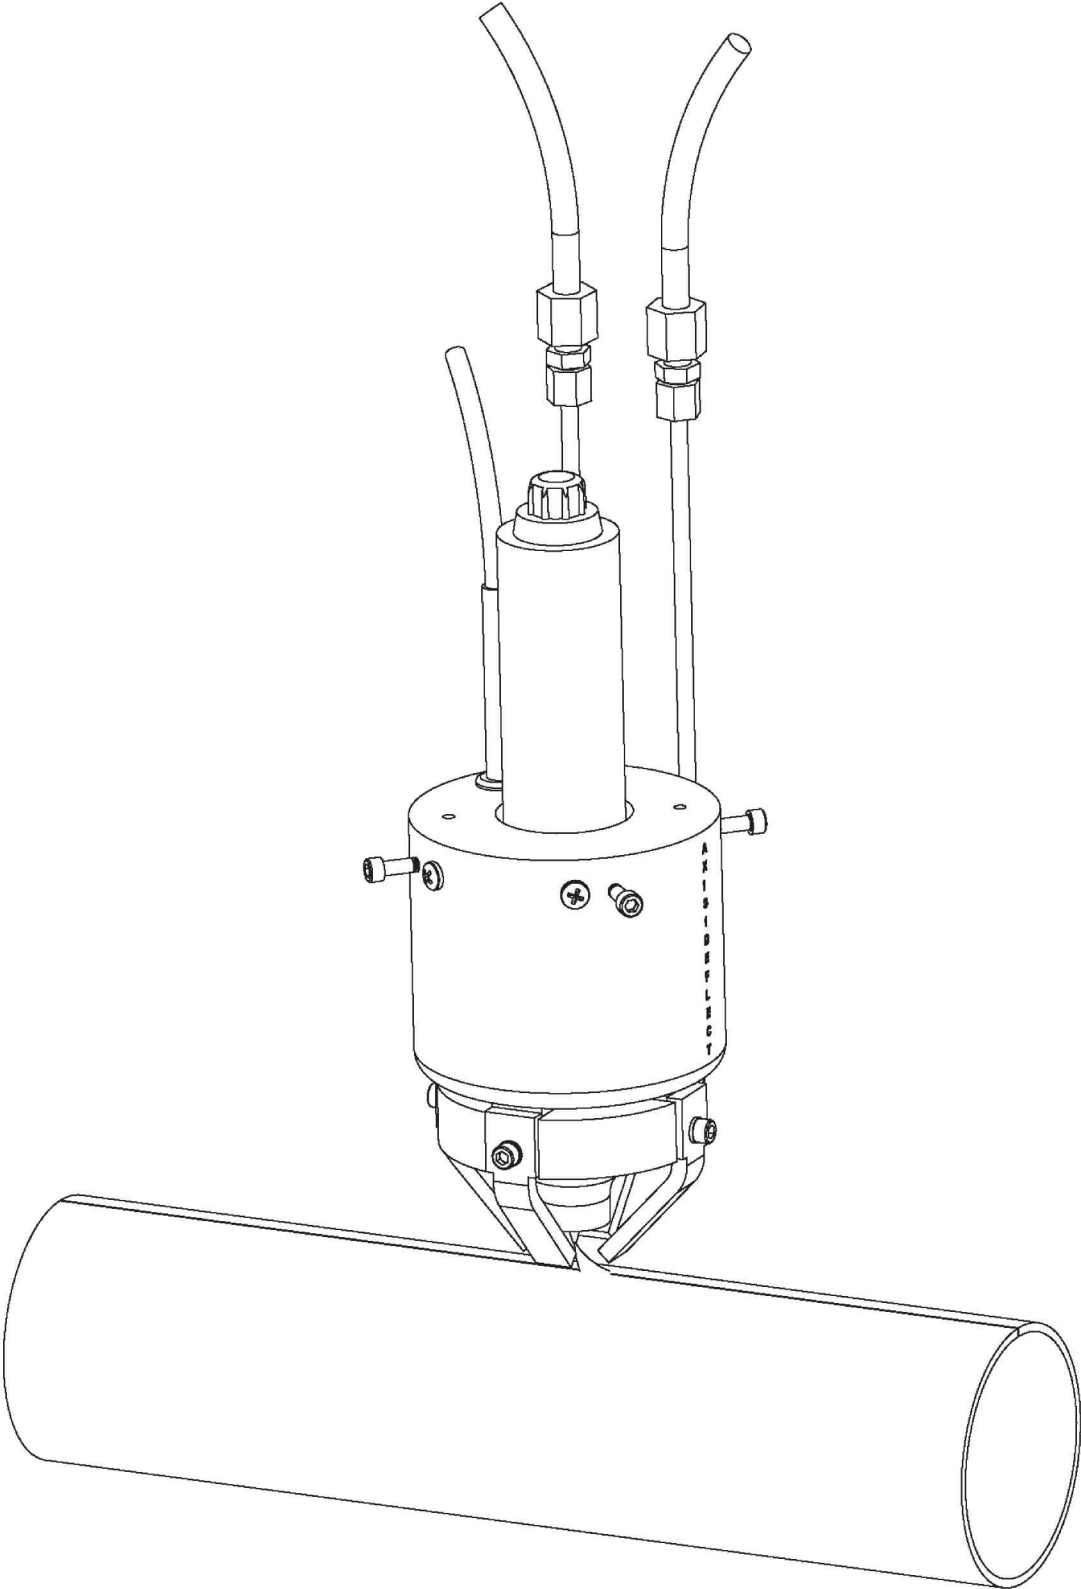

FIGURE 1 - MP-4 MOUNTING METHOD
- Slip the probe over the torch and align the tips approximately even with the gas cup, or bottom of torch. Tighten the 4 screws. (See Figure 1 - MP-4 Mounting Method on page 4 for illustrations of probe-to-seam orientation.)